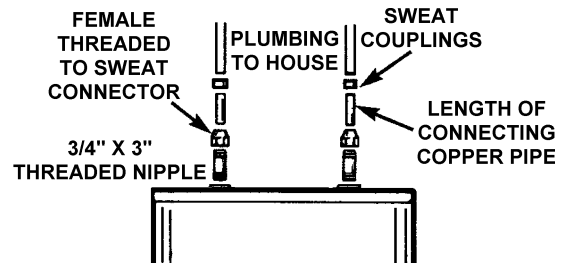

FIGURE 11.
3. Using the diagram, map out the installation. Screw the nipples into the tank and the fittings onto the nipples, hand tight. See Figure 11. Then measure and cut the copper tubing. Remove the nipples and fittings, then go to the next step.
6. The 3/4\" female threaded to sweat connectors and two pieces of copper pipe to connect the water heater to the house plumbing should be cleaned, fluxed and assembled. See Figure 11. **Do not screw the connectors into the nipples in the tank before soldering.**